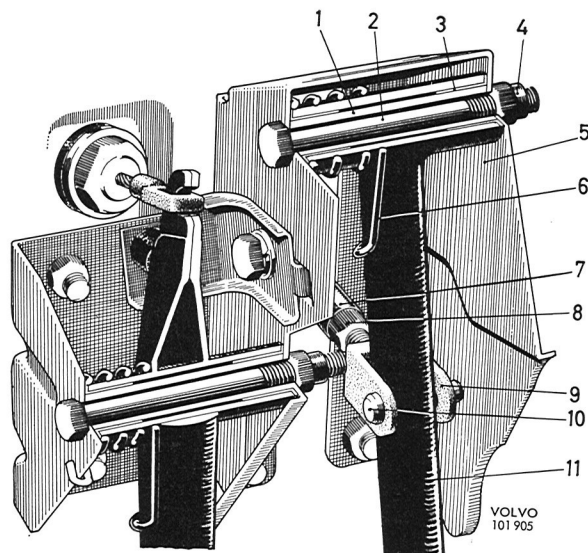

Fig. 5-63. Pedal suspension components
The position of the pedal is adjusted by loosening the lock nut (8, Fig. 5-63) and removing the cotter pin bolt (10) and then turning the fork (9). Do not forget after adjusting to tighten the lock nut and install the cotter pin.
1. Remove the cotter pin bolt (10, Fig. 5-63). Lever off the return spring (6). Remove the nut (4) and pull out the screw (2). Lift the pedal (11) forwards.
2. Press out the bearing sleeve (1) and the bushing (3).
4. Press the new bushing (3) in position in the pedal and lubricate them with a thin layer of ball bearing grease. Install the bearing sleeve (1) and the return spring (6).
5. Place the pedal in position and install the screw (2) and the nut (4). Install the return spring. Install the cotter pin bolt (10) and the cotter pin.